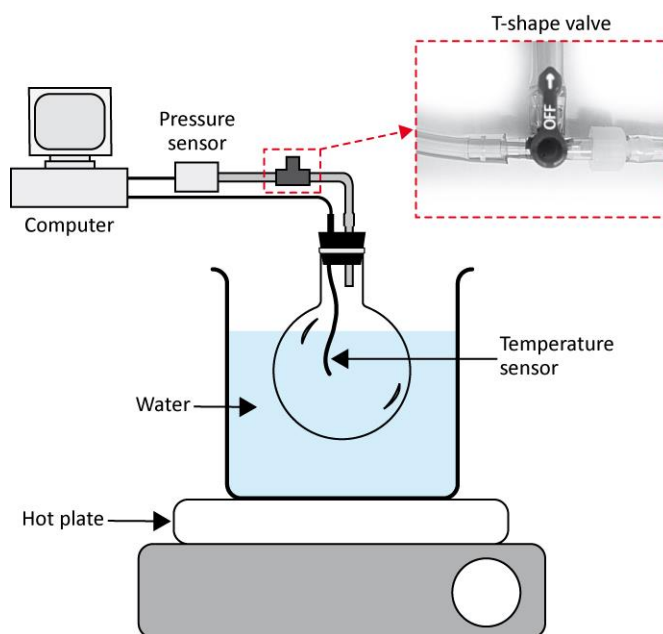

Figure 1 - Pressure vs. temperature setup schematic
Step 2. Make sure your setup looks like the setup schematic as presented in Figure 1. It consists of a sealed glass bulb connected to a pressure sensor and a temperature sensor. Pick up a 600 mL beaker nearby the sink in front of the classroom and fill it with tap water (room temperature) up to the 350 mL mark (only if the laboratory staff did not do it for you already). Put the beaker on top of the hot plate and lower the glass bulb until the spherical part is almost covered with water. You should read a temperature around 22 °C and a pressure around 100 kPa.
- Attach the 60 mL compressed syringe into the T-shape valve (see Figure 1).